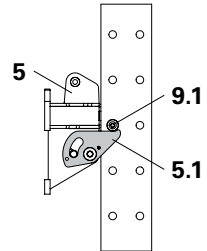

Fig. 56
2. Press the pawl lock (5.1) upwards by hand so that the climbing pawl is activated. (Fig. 56)
4. As soon as the defective Rail Guidance Shoe-2 LPS (5) is no longer used, dismantle and have it repaired or replaced.